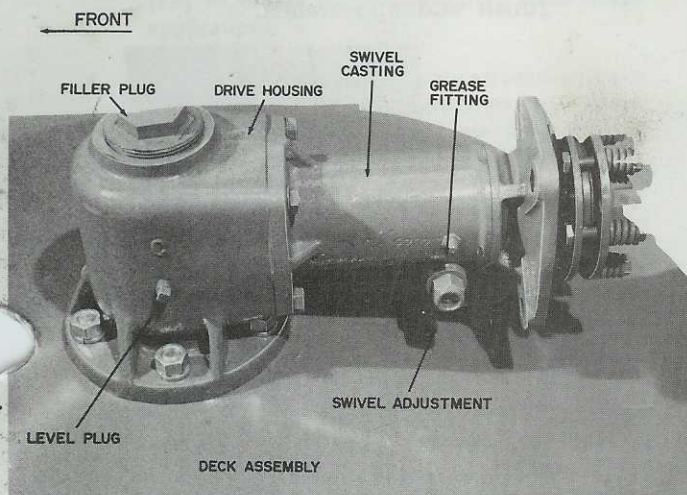

fig 2
1. Swivel action of the mower is regulated by the nut and bolt on the swivel casting, fig 2. Loosening allows more swivel action; tightening reduces the action. The swivel action should allow the mower to follow ground contour.
1. Remove the filler plug and level plug in fig 2. Fill the drive housing to the oil level plug with SAE 90 gear lubricant. Replace the plugs. Check the level periodically especially if signs of leakage are present.
2. Grease the swivel casting through the grease fitting on the casting with general purpose grease. Add grease until it comes out under the swivel adjustment. Regrease once a season; fig 2.